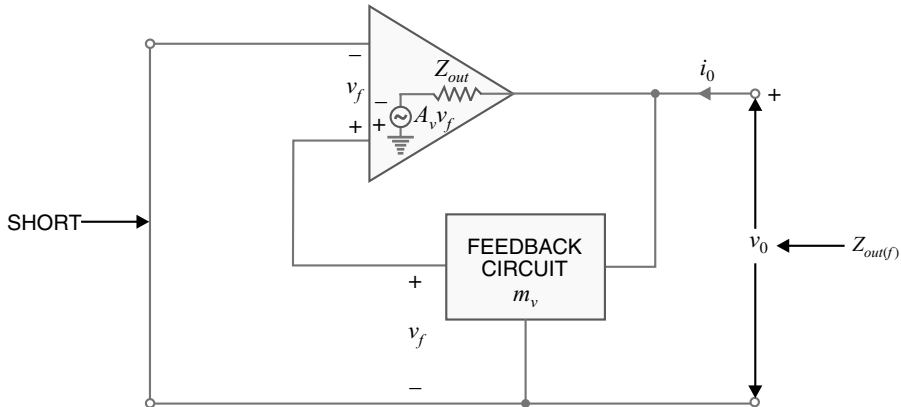

Fig. 11.14
**(b) Output impedance.** Recall that output impedance of an amplifier is the Thevenin impedance at its output terminals. Therefore, in order to find the output impedance  $[Z_{out(f)}]$  of a negative voltage feedback amplifier, short-circuit the input signal source and apply voltage  $v_0$  at the output terminals as shown in Fig. 11.14. Since the input terminals are shorted, the feedback voltage  $v_f$  is the only voltage at the amplifier input. Referring to Fig. 11.14, the voltage  $v_0$  produces the feedback voltage  $v_f$  and this generates a voltage  $A_v v_f$  in series with  $Z_{out}$ . Here,  $Z_{out}$  is the output impedance of the amplifier without feedback. Assuming an instantaneous positive polarity for  $v_0$ , the output current  $i_0$  flows in the direction shown. Applying Kirchhoff's voltage law to the output circuit, we have,